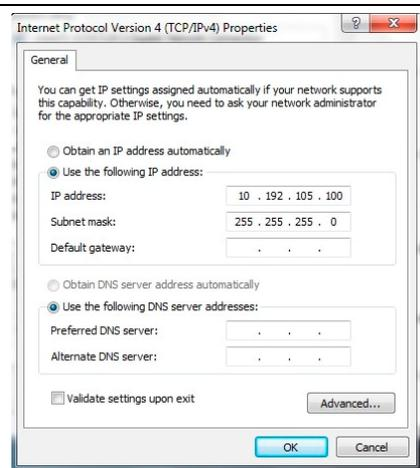

Figure 3-26 TCP/IP Properties
- e. Enter IP address **10.192.105.100** and subnet mask **255.255.255.0**, Figure 3-26